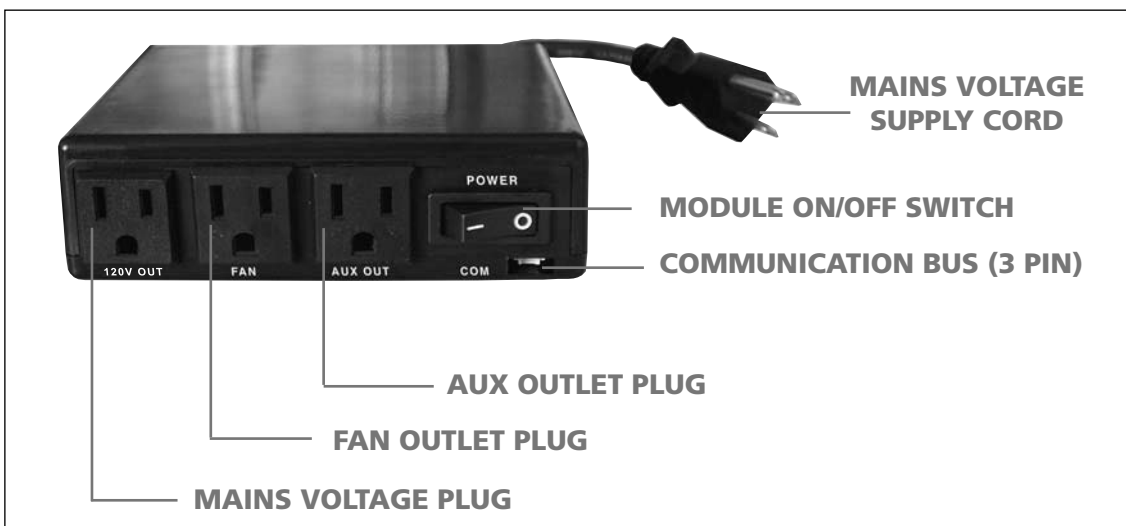

Fig. 4: Fan Control Module.
Fan Control Module (FCM) offers the added ability to control the fan speed through six (6) speeds, a remotely actuated 120V outlet and a constantly powered 120V outlet. The FCM provides DC power to the Receiver allowing the batteries to be used only when line power is interrupted or lost (Fig.4).